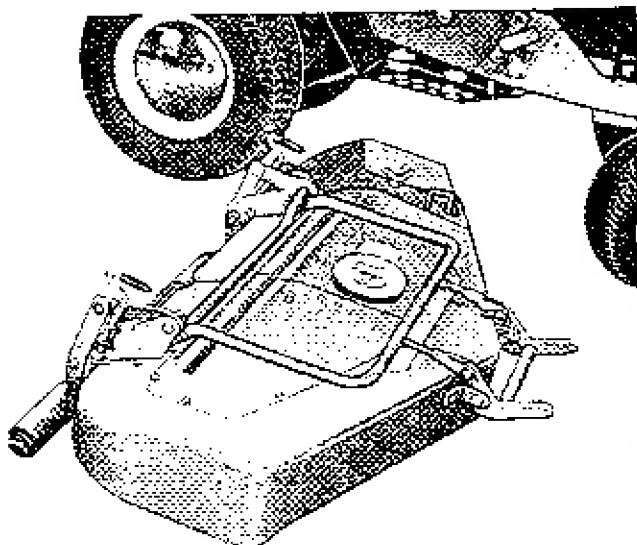

Figure 1. Mower positioned to be slid under tractor.
1. See figure 1. Position the mower as shown in figure 1, on either side of the tractor. If the mower is to be slid in from the right side as shown on figure 1, turn the front wheels to the left. If the mower is to slide under the tractor from the left side, turn the front wheels to the right.
8. See figure 1. Turn the tractor front wheels left if the mower is to be slid out the right side of the tractor or right if the mower is to be slid out from the left side of the tractor. Slide the mower out.